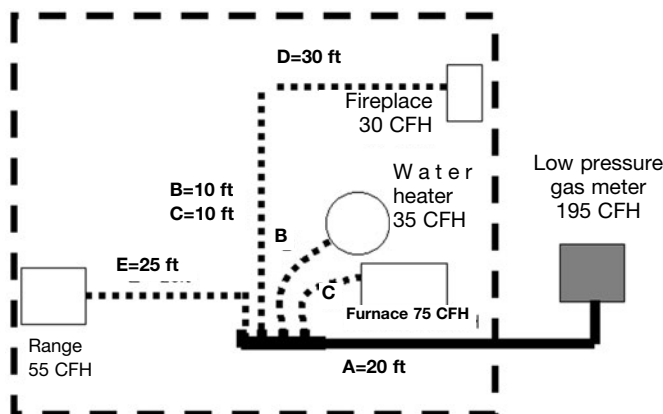

Figure: 3-7
1. The system presented in Figure: 3-7 is typical of a residential installation with four appliances. The supply pressure is 7-8 inches water column. The system will be sized with 0.5 inches w. c. drop for the steel pipe trunk line and 1.0 inch w.c. drop for the **TracPipe® CounterStrike®** branches.